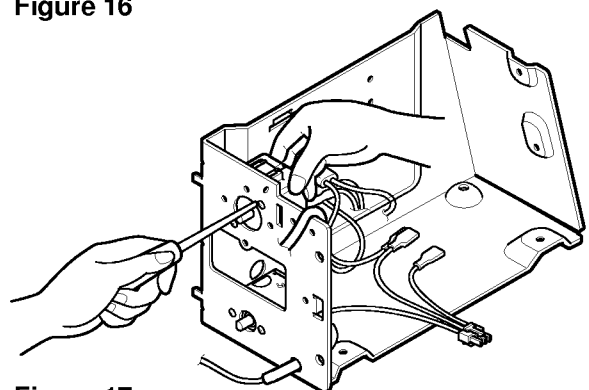

Figure 17
8. Re-install the components by referring to the above removal procedure. (See figure 17)